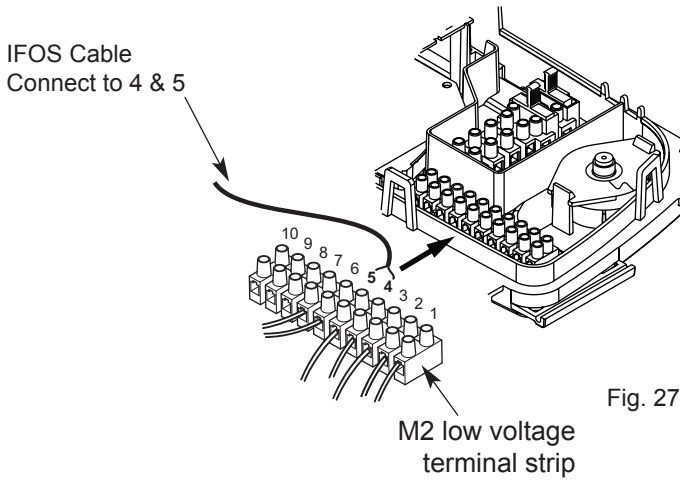

Fig. 27
2. Connect the IFOS cable to 4 & 5 on the M2 low voltage 10 way terminal strip (Fig. 27). There is no polarity.